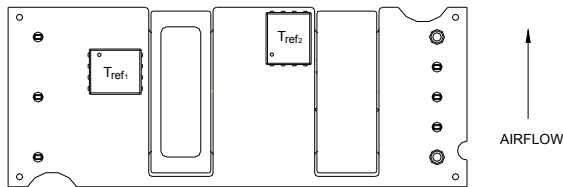
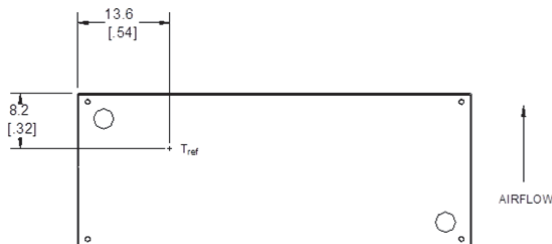

Figure 13. T_{ref} Temperature Measurement Locations for Open Frame Module.
Figure 14. T_{ref} Temperature Measurement Location for Module with Heatplate.
To provide protection under certain fault conditions, the unit is equipped with a thermal shutdown circuit. The unit will shutdown if the thermal reference point, T_{ref} , exceeds 122° and 123°C (Figure 13, typical) or 105 °C (Figure 14, typical), but the thermal shutdown is not intended as a guarantee that the unit will survive temperatures beyond its rating. The module will automatically restart upon cool-down to a safe temperature.
The thermal reference points, T_{ref1} and T_{ref2} , used in the specifications for open frame modules are shown in Figure 13. For reliable operation these temperatures should not exceed 122° and 123 °C respectively.
The thermal reference point, T_{ref} , used in the specifications for modules with heatplate is shown in Figure 14. For reliable operation this temperature should not exceed 100 °C.